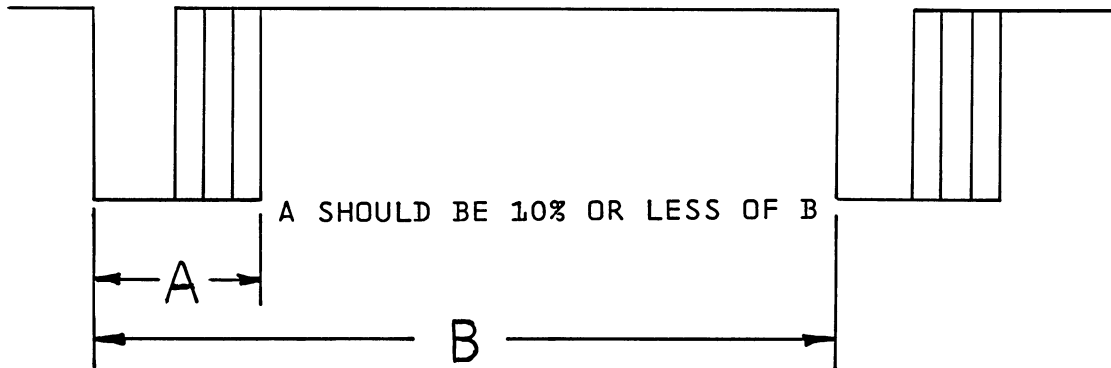

Figure 5-11. Skew Pulse at TP10
- c. Proper waveform is shown in Figure 5-11.
- f. Adjust azimuth screws (Figure 5-5) on head mounting plate so that outputs of all tracks, as monitored at TP10, fall within 10% or less of byte-to-byte period in forward direction, and 12% in reverse direction. (See Figure 5-11.) Outer azimuth screw bears against transport mounting plate and pivots head assembly outward. Inner azimuth screw threads into transport mounting plate and pulls head assembly inward. Inner screw also serves to lock adjustment.